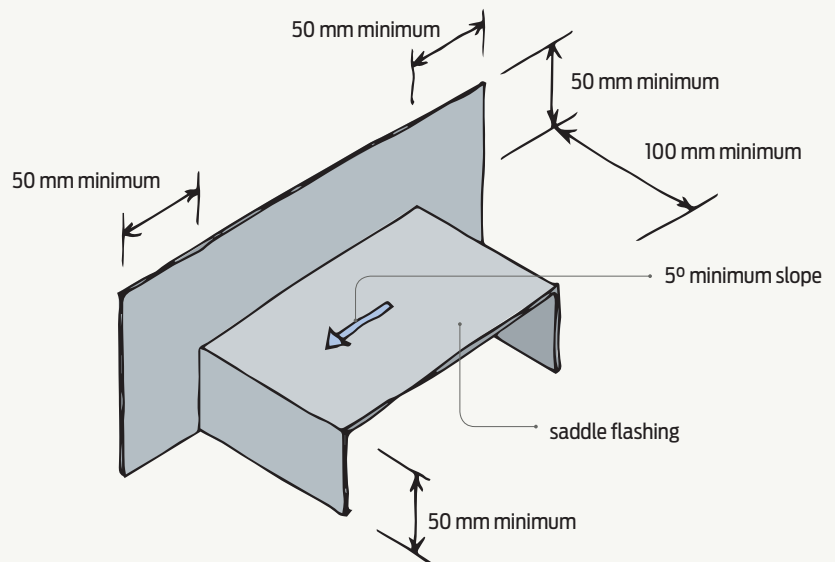

Figure 5 Fabricated saddle flashing to framed balcony/wall junction or at intersection between different height parapets.
- where parapets at different heights may intersect (see Figure 5)